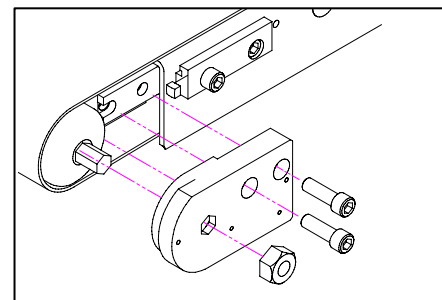

Figure 3
- a. Using a 3/4" Wrench or an Adjustable Wrench, remove the 3/4" Nut and Serrated Lock Washer from each side of the Motor Pulley. Be careful when sliding the nut and washer down the cable and over the connection plug (**Figure 3**).
- b. On the side where the lead wires come out of the motor, remove the 2 Socket Head Cap Screws that hold the drive plate on using a 1/4" Allen Wrench (**Figure 3**).
- c. Slide the drive plate off making sure you support the end of the motor pulley. Again, be careful when sliding the plate down the wire and over the connection plug (**Figure 3**).